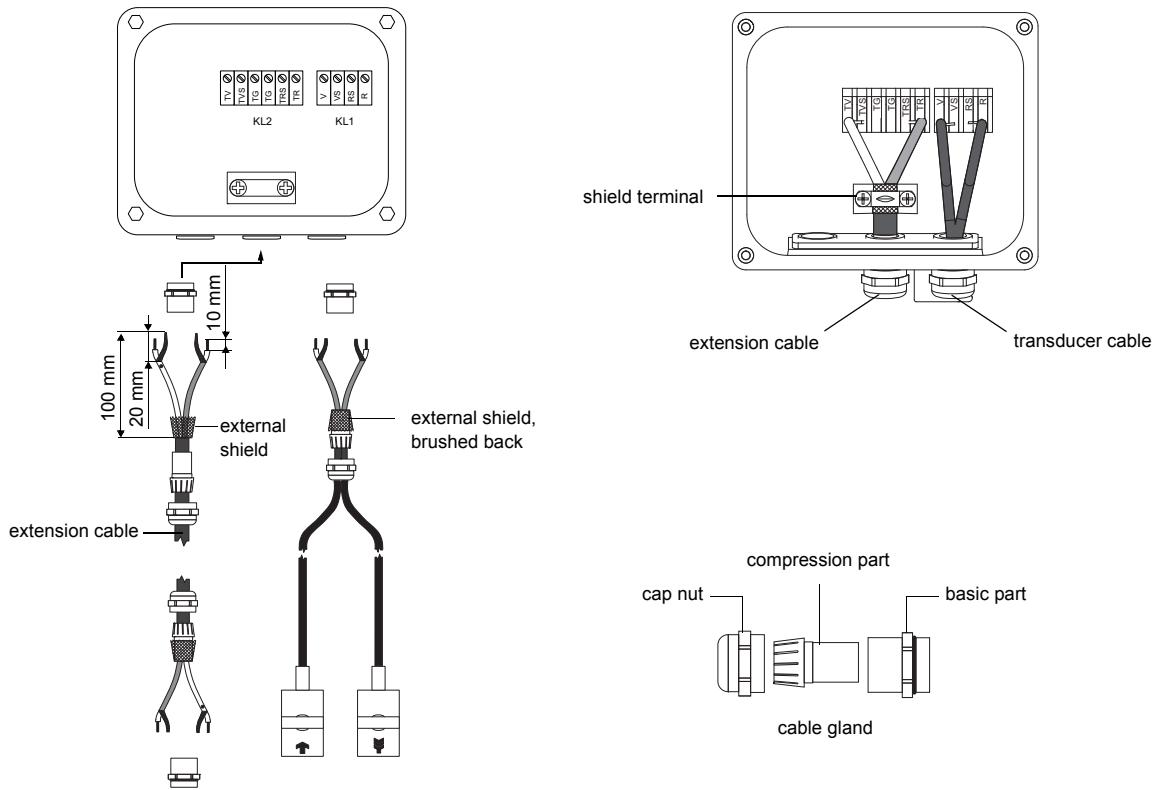

Fig. 7.7: Connection of the extension and transducer cable to the junction box JB01
- Remove the left blind plug for the connection of extension cable (see Fig. 7.7).
- Pull the extension cable back until the brushed back external shield is below the shield terminal (see Fig. 7.7). The extension cable has to remain completely insulated up to the shield terminal.
- Connect the extension cable to the terminals of the transmitter (see Fig. 7.7 and Tab. 7.4).
For the terminal assignment of the transducer cable see Fig. 7.7 and Tab. 7.5.